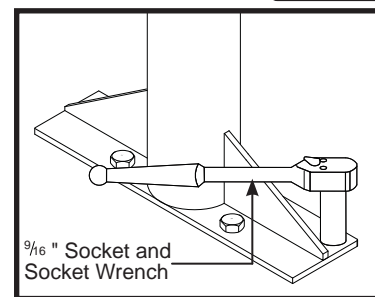

Fig. 14
6. Once the OV has been anchored, use a socket wrench and  $\frac{9}{16}$ " socket to tighten the anchor bolts (Figure 14).